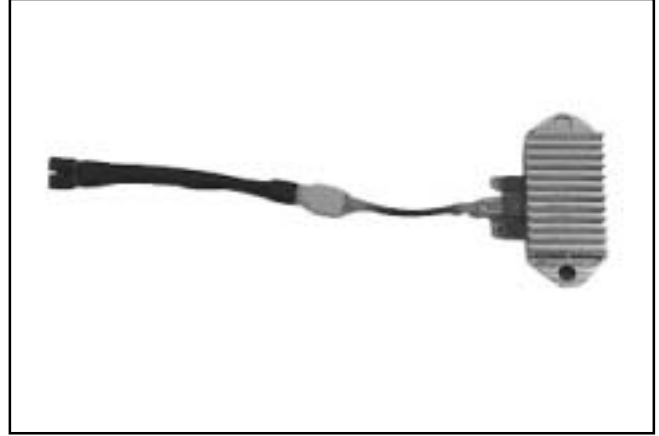

Figure 8-24.
1. Connect the single lead adapter in between the B+ (center) terminal of the rectifier-regulator being tested and the squared single end of the tandem adapter lead. See Figure 8-24.